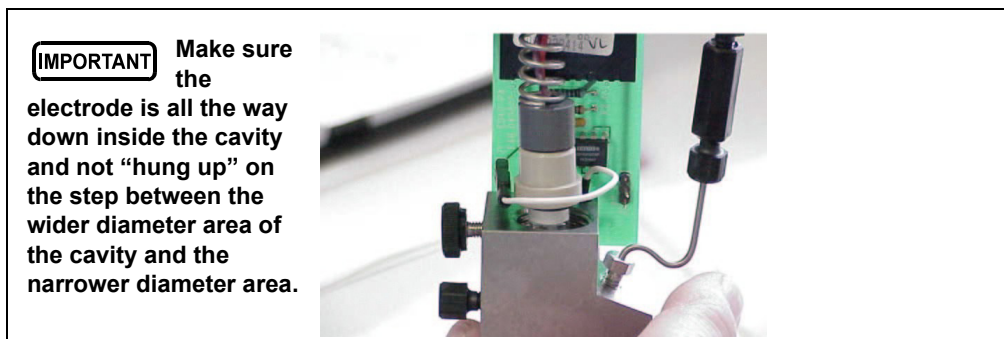

Figure B-12. Installing the Reference Electrode
7. Make sure the reference electrode is centered in the reference electrode cavity and then carefully insert the electrode until it touches the stop ring at the bottom of the cavity (see Figure B-12).